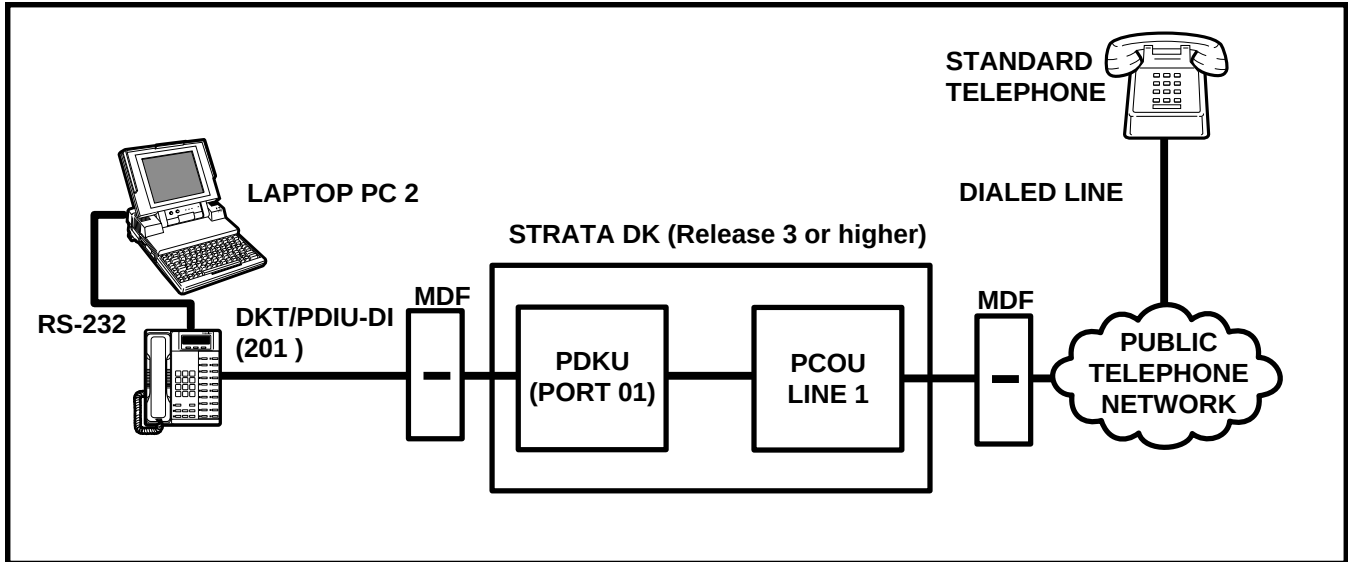

FIGURE 8-42
- The **CONNECT** LED on the PDIU-DS (204) will be lit; the Data Call (DATA) and Modem (MODEM) LEDs on DKT 200 will also be lit.
12.86 PC-Auto Dial Voice-Call Test (see Figure 8-42)